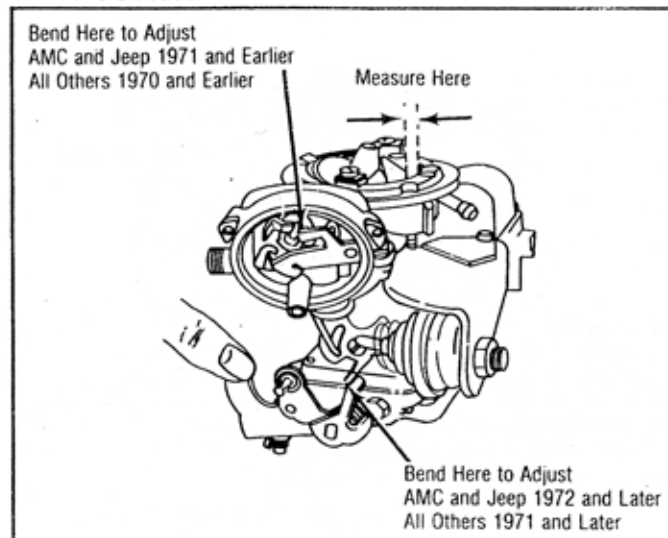

Fig. 11 Choke Unloader Adjustment
1. Hold throttle valve wide open. Close choke valve completely. See Fig. 11.